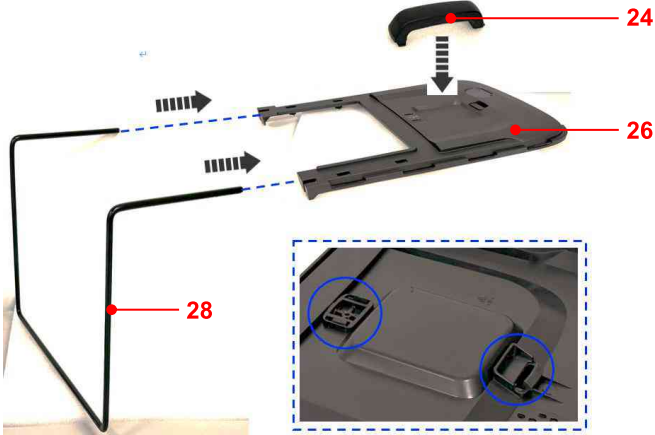

Fig. 24
2. Slide the ends of the support frame (28) into the grooves of the grass catcher lid (26). Assemble the carry handle (24) onto the grass catcher lid (26); pay attention to the correct position and ensure the carry handle is firmly engaged in place (Fig. 24).